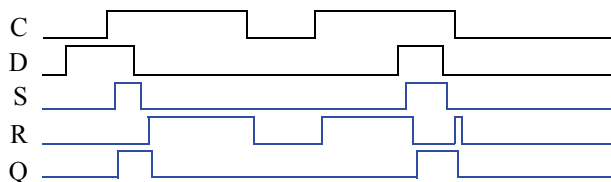

Figure 3.95
- 3.10 Trace the behavior of a D latch (see Figure 3.19) for the input pattern in Figure 3.95. Assume Q is initially 0. Complete the timing diagram, assuming logic gates have a tiny but non-zero delay.